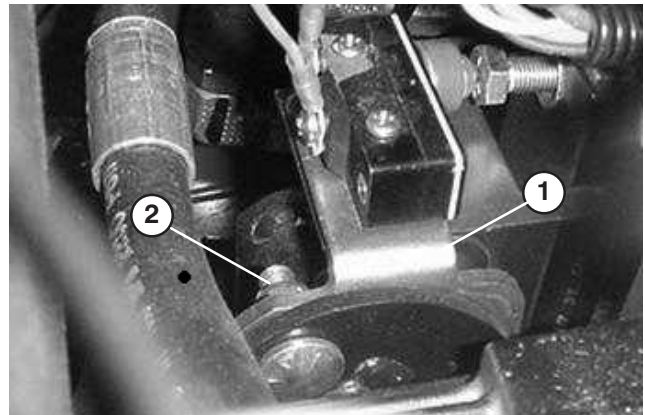

Figure 40
4. Loosen two locknut securing pump plate so plate is free to move (Fig. 40).
5. Start engine and rotate pump plate (Fig. 40) in either direction until wheel ceases rotation.
6. Stop engine and tighten locknuts to secure pump plate (Fig. 40).